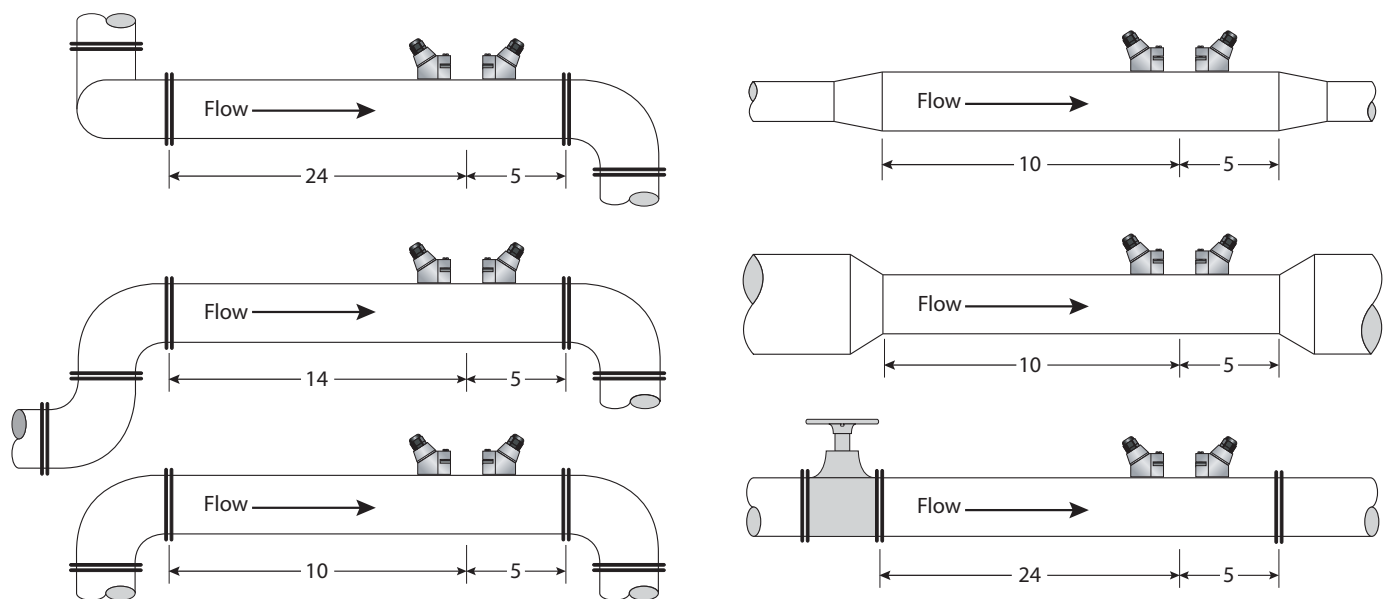

Figure 16: Piping configuration and transducer positioning
At this point, consider the transducer mounting location. A guiding principle is to mount the transducers on a section of pipe that has at least 10 pipe diameters upstream of the transducers and 5 pipe diameters downstream. See *Figure 16 on page 18* for additional pipe length considerations.
- A piping system that contains lengths of straight pipe such as those described in *Figure 16*. The optimum straight pipe diameter recommendations apply to pipes in both horizontal and vertical orientation. The straight runs in *Figure 16* apply to liquid velocities that are nominally 7 fps (2.2 mps). As liquid velocity increases above this nominal rate, the requirement for straight pipe increases proportionally.
Figure 16 shows the number of pipe diameters required downstream and upstream of the transducers for various piping configurations.